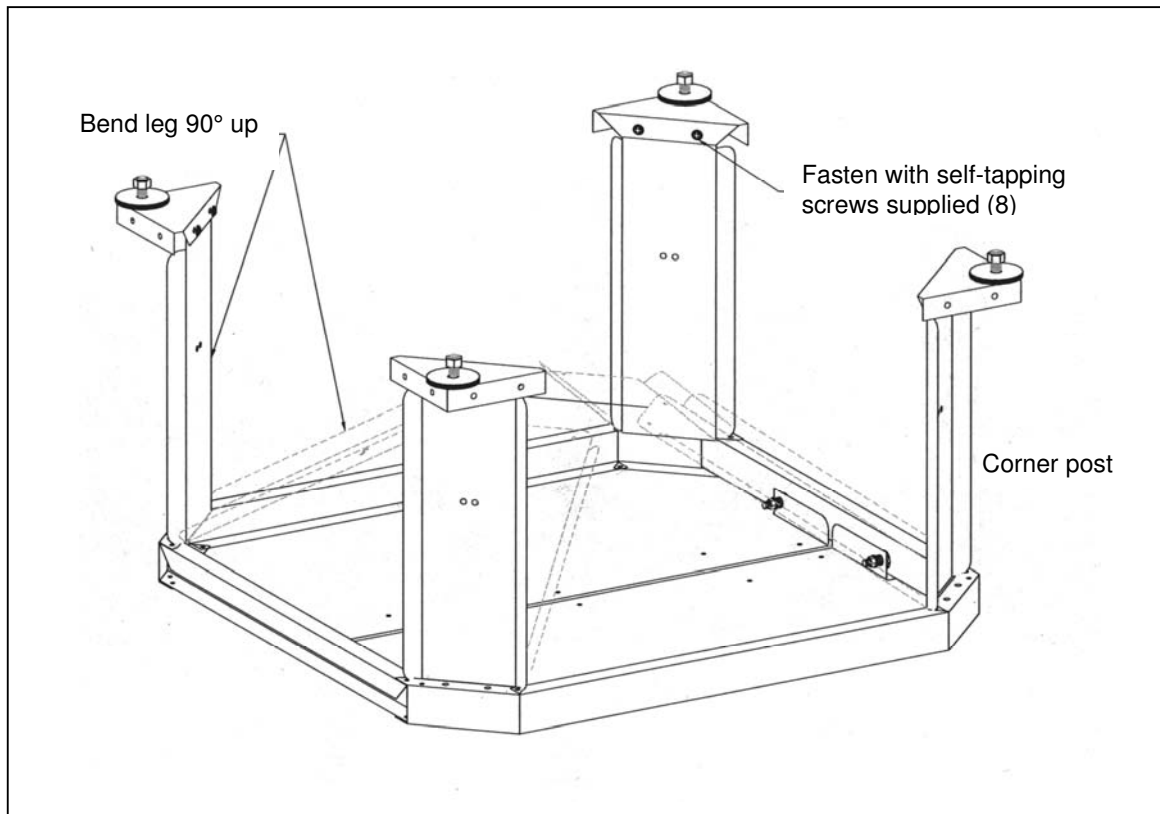

Fig.1 Weather seal and mounting bracket sub-assembly
2.1.2 Weather seal sub-assembly (see fig.1)